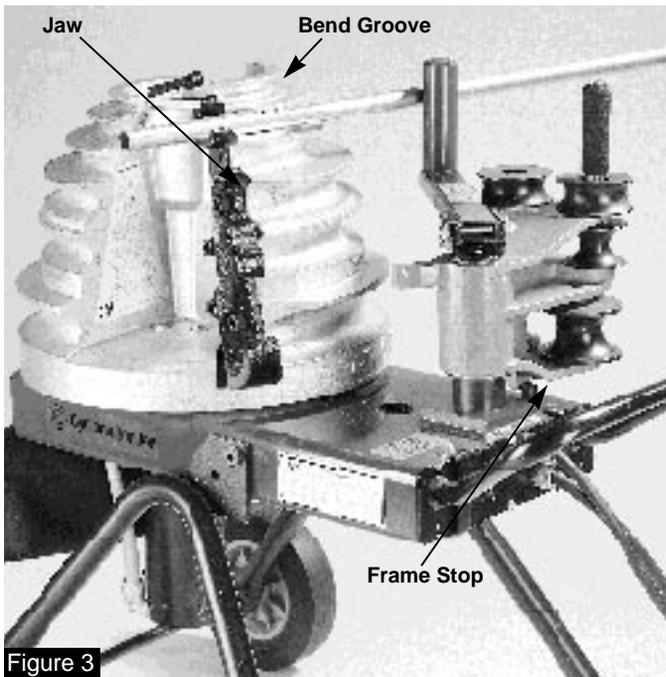

Figure 3
5. The upper urethane roller and support arm (figure 3) is used for bending 1/2" through 1" conduit. One of the top three shoe grooves will be used, depending on conduit size.
8. Insert the conduit in the shoe groove marked with the number matching the size conduit being bent. The conduit must set in the shoe and in the jaw. The end of the conduit must extend a minimum of 2" beyond the jaw. See Figure 3. Refer to table A or B on page 5 for bending data.